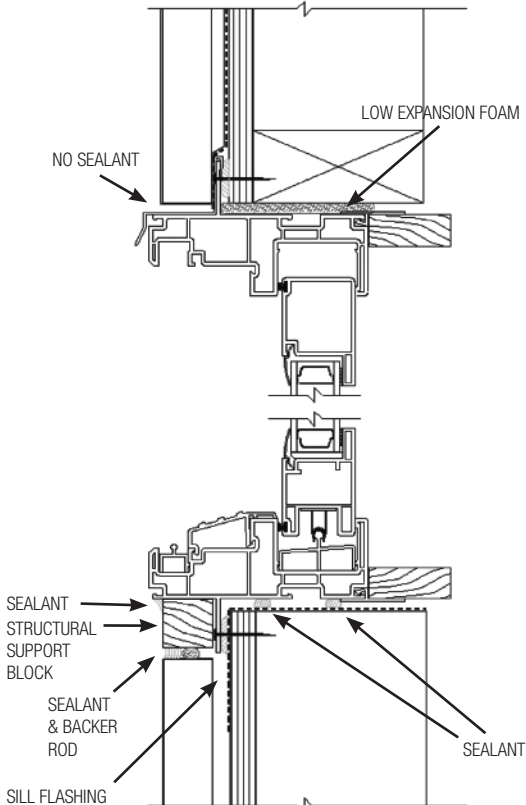

FIG. 18
A) Support material is required on exterior sections of sliding patio doors. Install a structural wood support block at sill. (Fig 18)